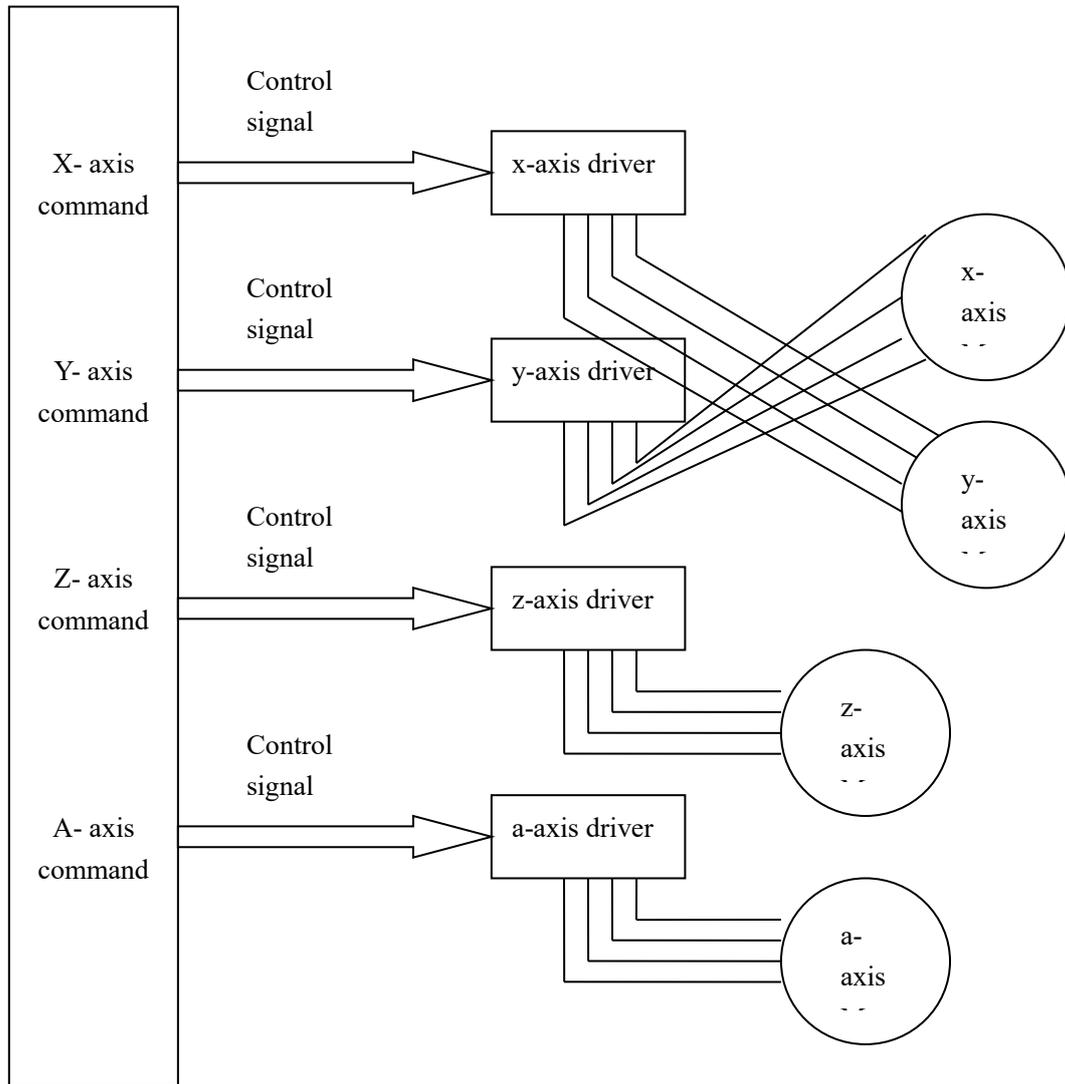

Figure 3-6
2.check step motor and wiring, For example, x, axis have some problem, you can do as Figure 3-6	2. if stepper motor have having issues, replace it. Do not unplug stepper motor with machine on and computer on. This will cause 5 axis card to not work